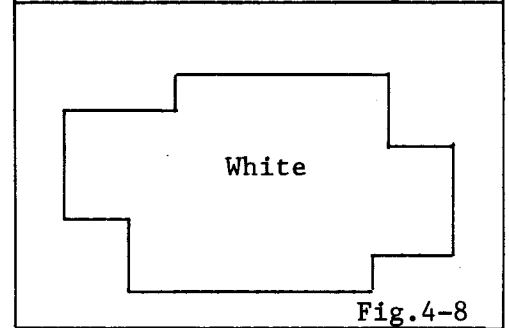

Fig.4-8
- i) Push the [SPACE] bar to pad windows with numbers with the background in white. As a result, a white block is displayed as in Fig.4-8.
- i) Push the [SPACE] bar and check that the white area in Fig.4-8 are padded with numbers.